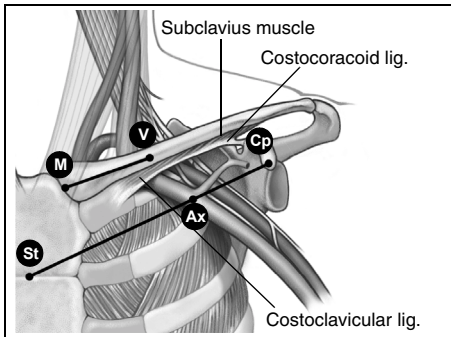

Figure 5. Landmarks identify the entry point for a percutaneous subclavian venipuncture.
1. Referring to Figure 5, identify points St (sternal angle) and Cp (coracoid process).